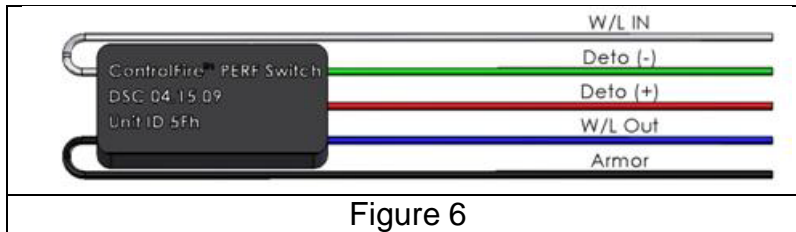

Figure 6
- **ControlFire® Switch Rev 1.7 PCB 1.0D** – Shown in Figure 6 is an expendable ControlFire® Switch. Every gun or plug in a string must be equipped with a ControlFire® Switch and can be verified using the VeriFire® Panel.